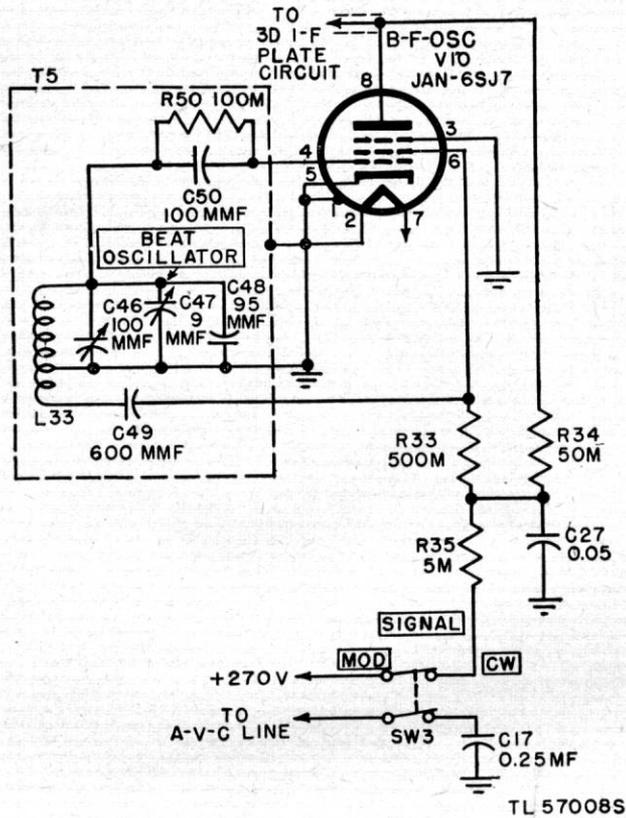

Figure 32. Radio Receiver BC-779-B, functional diagram of beat-frequency oscillator.
e. A-V-C OPERATION. With the AVC-MANUAL switch at AVC, the a-v-c control voltage is obtained from the junction of R52 and R19 and applied to the r-f stages and the first two i-f stages through the AVC-MANUAL switch and the i-f filter consisting of 1-meg resistor R52 and 0.05-mf paralleled capacitors C56 and C18B. This resistor-capacitor combination establishes the time constant of the a-v-c circuit. The grid resistors and capacitors in the controlled r-f and i-f stages also affect the time constant. The 2-meg resistor, R19, provides an interconnection between the avc and the fixed bias circuit. The SENSITIVITY control can therefore be used to adjust the gain of the receiver during a-v-c operation. This feature is very helpful in a noisy location. When avc is used for c-w code reception, a longer time constant is desirable and is secured by adding a 0.25-mf capacitor C17 in parallel with C56 and C18B. This additional capacitor is connected to one pole of the SIGNAL MOD-CW switch, SW3 (fig. 32), which controls the beat oscillator. Therefore, when the beat
## 66. Beat Frequency Oscillator (fig. 32)